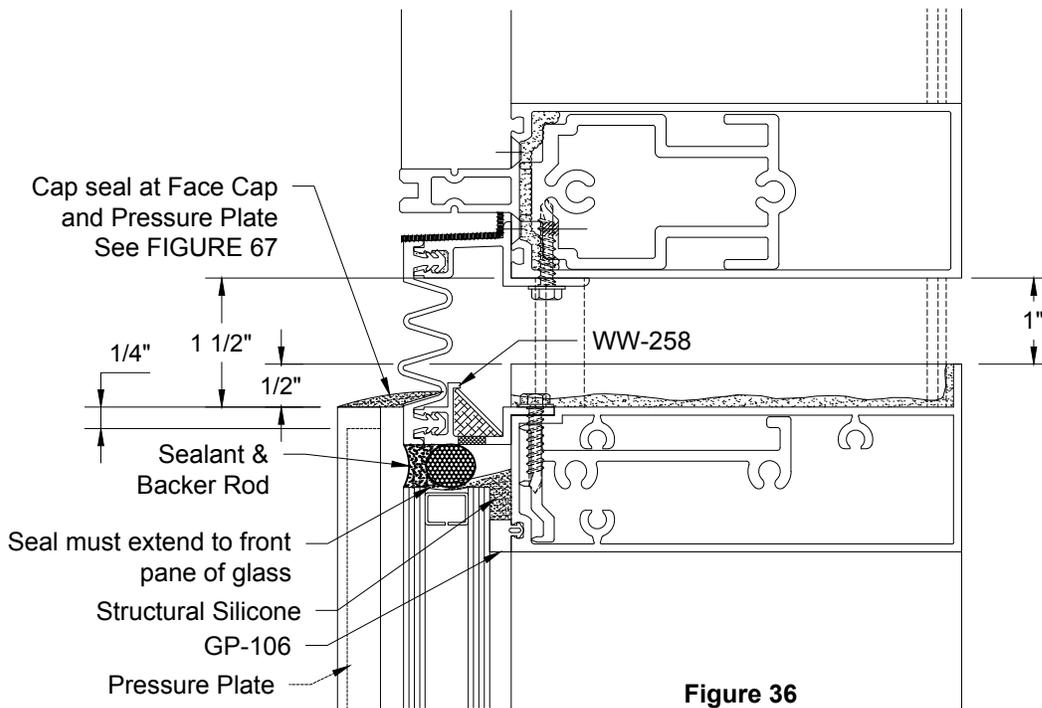

Figure 36
- 6.17 Structural Silicone seal is required at top of glass of lower units. This seal must extend forward to cover top of glass. Insert backer rod and seal face of glass to lower side of WW-258 gasket retainer. **See FIGURE 36.** Do not obstruct weep hole in WW-258 gasket retainer.